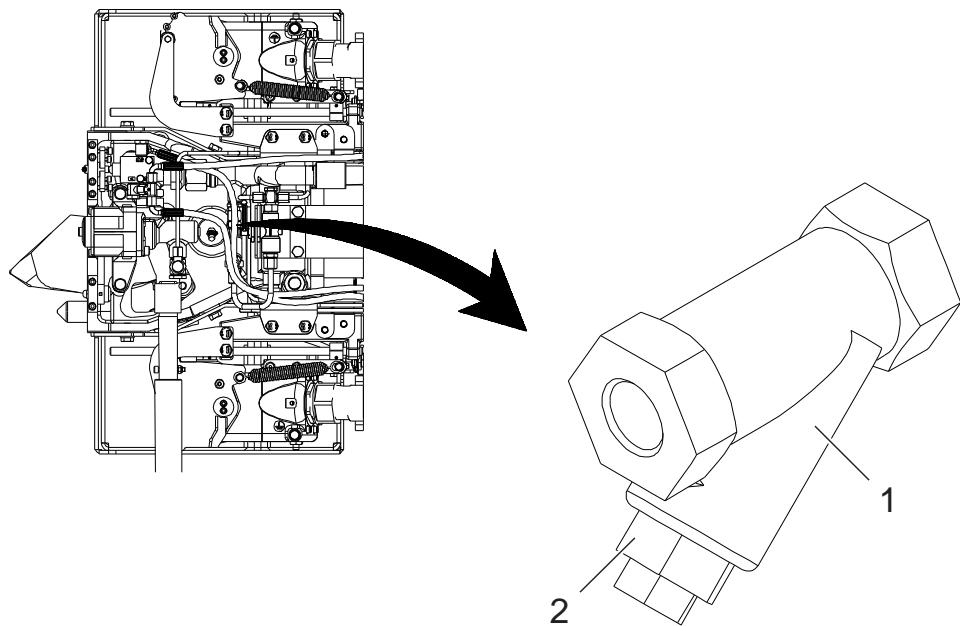

Figure 5-14: Inspect Air Filter
1. Unscrew the caps (2) on the filter housing (1) and remove the filter insert. See Figure 5-14.
3. Install the filter insert into the filter housing (1) and mount the cap.